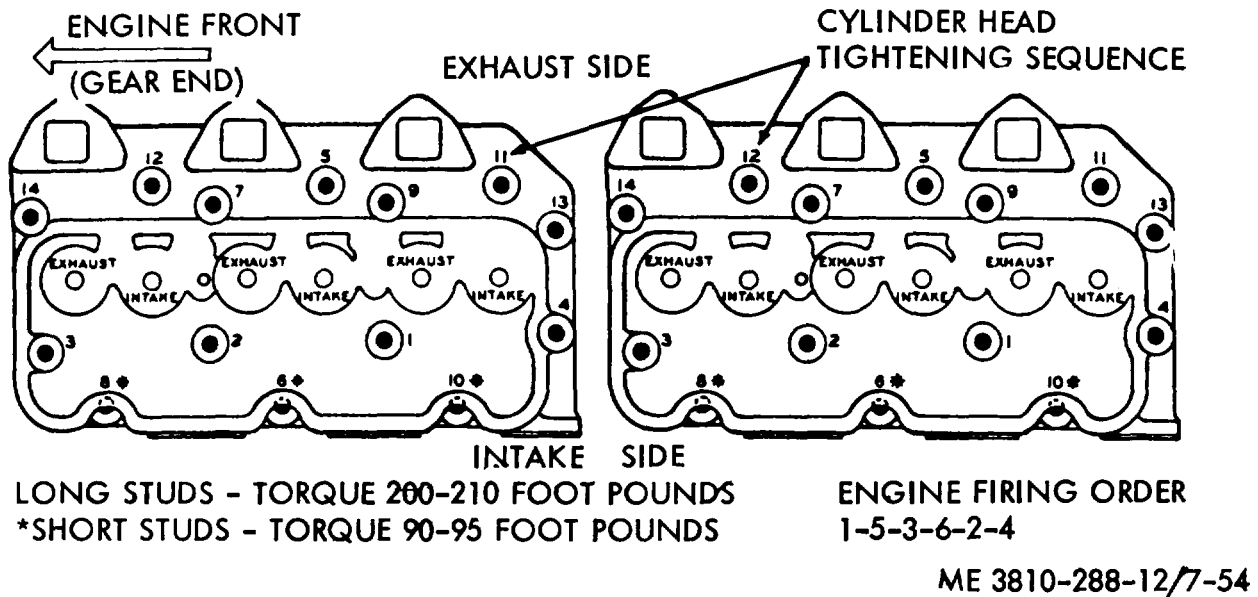
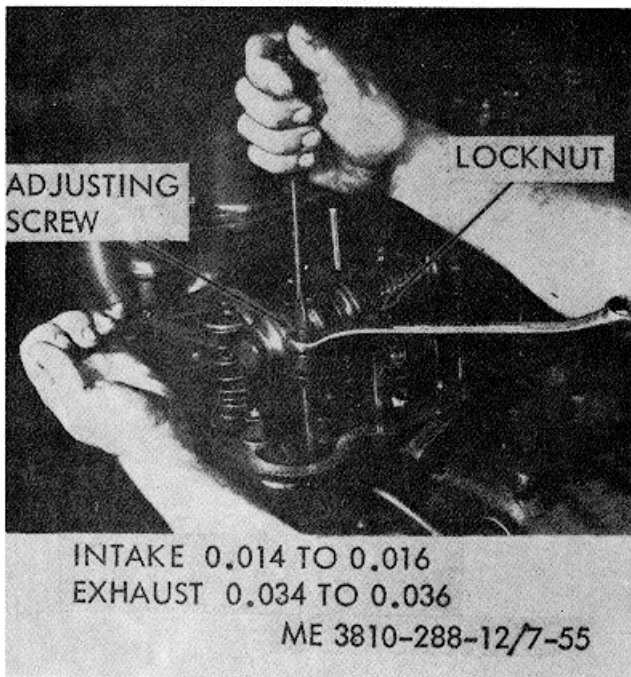

Figure 7-54. Arrangement of exhaust and intake valves.
Figure 7-55. Adjusting valve tappet clearance.
(4) The arrangement of the valves in this engine is as shown in figure 7-54. Refer to figure 7-55 and adjust the exhaust valve for cylinder number one to the clearance shown. Then adjust the intake valve to the clearance shown. Be sure